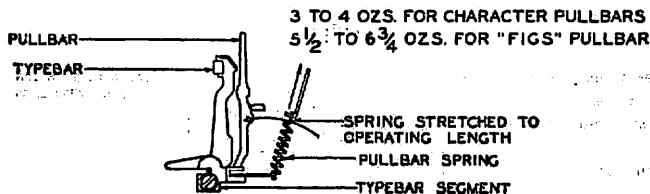

Fig. 16
4.29 **Character pullbar spring tension** shall be min. 3 ozs., max. 4 ozs. and "Figs." pullbar spring tension shall be min. 5-1/2 ozs., max. 6-3/4 ozs. See Fig. 16.